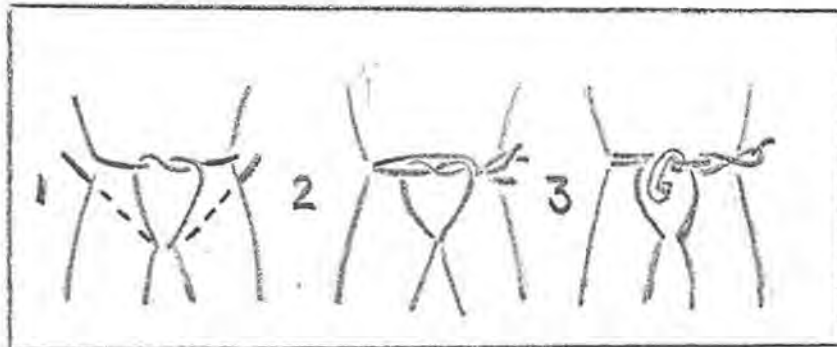

FIG 39. SEAT AND SNAPLINK
d. The Seat Rappels: (Figure 39) The seat rappels differ from the Body and Hasty Rappels in that the main friction is absorbed by a snaplink which is inserted in a sling rope seat fastened to the rappeler. This method provides a faster and less frictional descent than the other methods. Gloves should be worn to prevent rope burns.